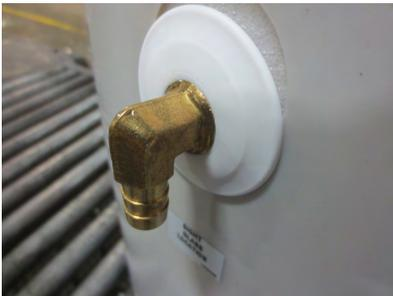

Figure 5 - Brass Drain Back Sight Tube Fitting
1. Fit one (1) clamp on the solar drain back tank sight tube. Move the clamp about two inches down the sight tube.
2. Fit the drain back tube onto the top sight tube fitting. See Figure 5.